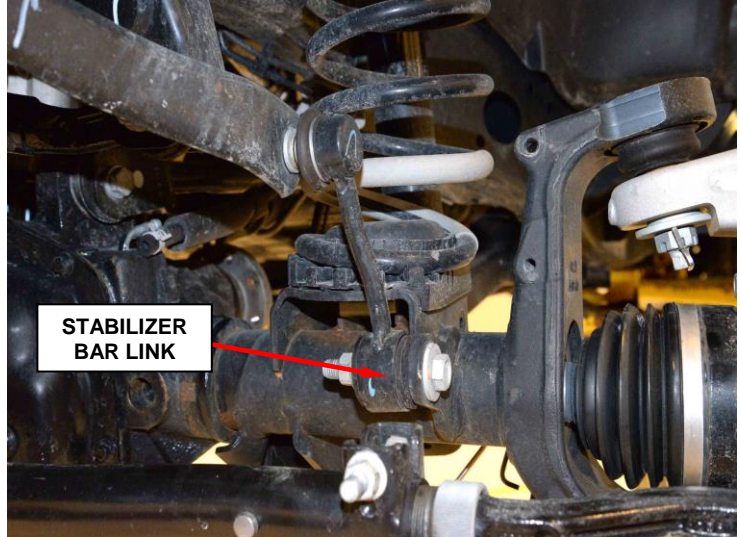

Figure 13 – Stabilizer Bar Link
17. Remove the stabilizer bar link lower bolts and nuts (Figure 13).
23. Install stabilizer bar links on axle brackets then install the nuts and tighten to 93N·m (69ft. lbs.) (Figure 13).